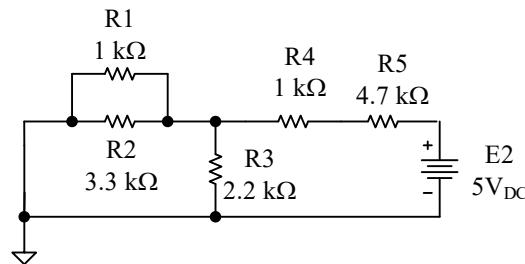

Figure 3 Second circuit for analysis by impedance combination
2. Impedance Combination – Manual Calculation – Figure 3
Table 4 Impedance combination calculations – Figure 3
3. Impedance Combination – Measurements – Figure 3
- Rearrange your circuit from Figure 1 to match that shown in Figures 3 and 4.